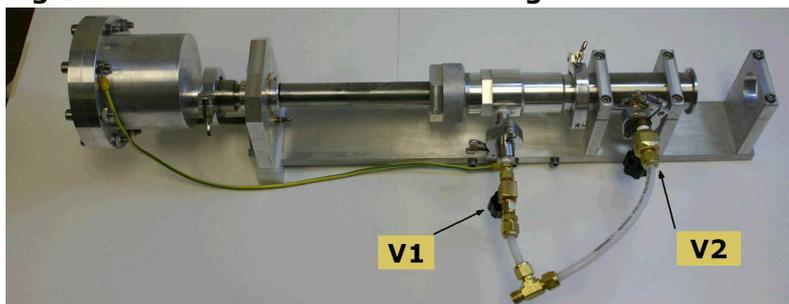

Fig.2
3. close the V1 (or V2) valves (see Fig.2) used to rough pump the VAT valves, and disconnect the KF adapters from the VAT valves. The remaining V1,V2 valves should be already closed
9. open the valves of the roughing line. First the V1 valve (Fig.2), and the roughing line should increase and then decrease quickly. When roughing pressure is around 13 mTorr open the second valve, V2 (Fig.2) (for SXR2 this valve is in the rear part). Pressure will increase to several mTorr and will decrease slowly; it will take up to two hours to get to 10 mTorr;